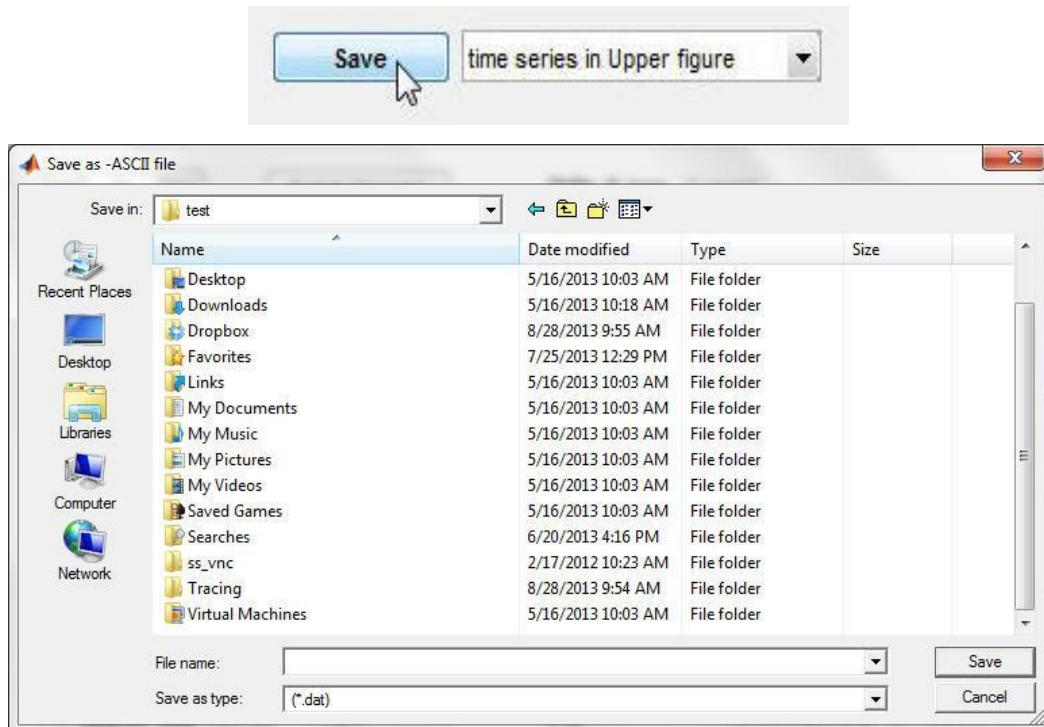

Figure 5-30. Select a desired folder and a file name to save the data.
Step 2: Click the **Save** button to open a browser window for saving the data, as shown in Figure 5-30: